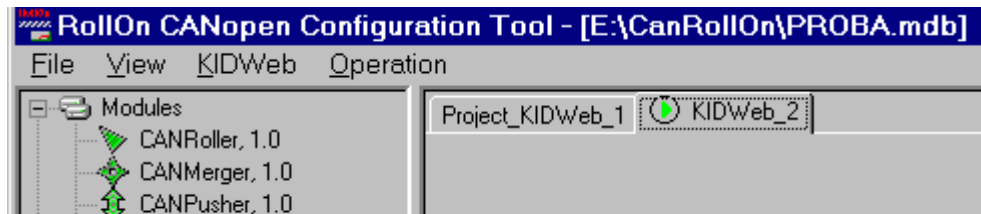

Fig. 5.6.1
- Click -to-match the physical KID Web tab item (in our case this is KIDWeb_2, having a green colored sign) - Fig. 5.6.1.